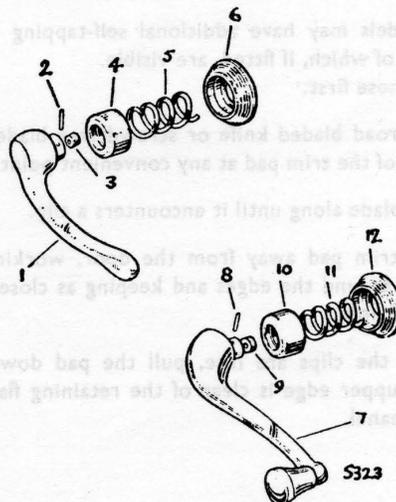

Fig. 7. Interior door handles (Alpine)
**To remove and refit** (See Fig. 7)